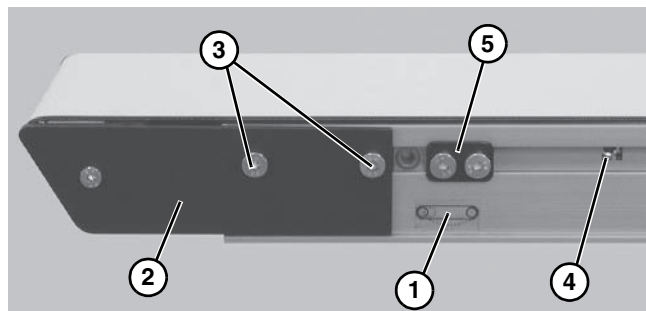
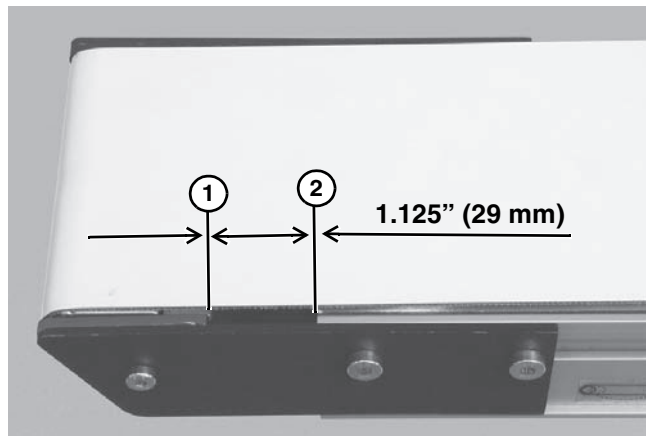

Figure 48
Figure 49
1. On tension end of the conveyor, identified with a  label (**Figure 48, item 1**), adjust head plate assembly (**Figure 48, item 2**): On both sides of conveyor, loosen fastening screws (**Figure 48, item 3**) and rotate pinion gear (**Figure 48, item 4**) to adjust head plate assembly.
2. Adjust head plate assembly so the edge of the axle support plate (**Figure 49, item 1**) is separated from the end of the conveyor (**Figure 49, item 2**) by 1.125" (29 mm). Tighten fastening screws (**Figure 48, item 1**) on both sides of conveyor to 60 in-lb (7 Nm).
3. If equipped with cam tracking assemblies (**Figure 48, item 3**) position against head plates and adjust belt tracking. Refer to "Conveyor Belt Tracking" on page 19.